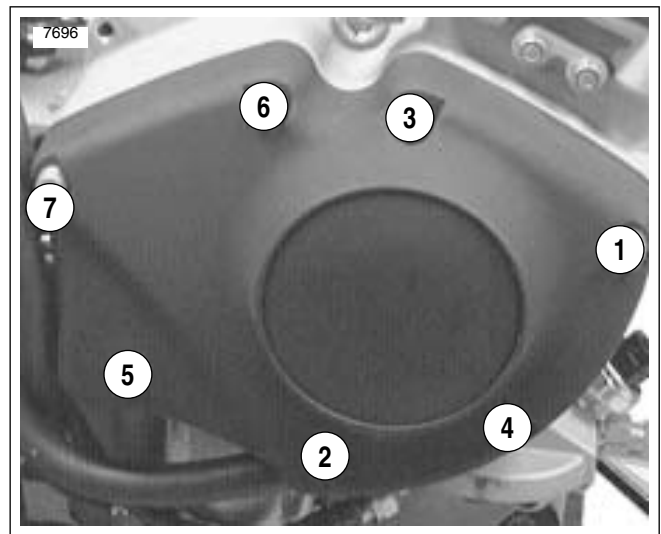

Figure 3-109. Gearcase Cover Mounting Screw Torque Sequence
5. See Figure 3-109. Install gearcase cover over all gears and onto right crankcase half. Secure cover to crankcase half with 7 socket head screws. Tighten screws evenly to 80-110 **in-lbs** (9-12 Nm). Use torque sequence as shown.